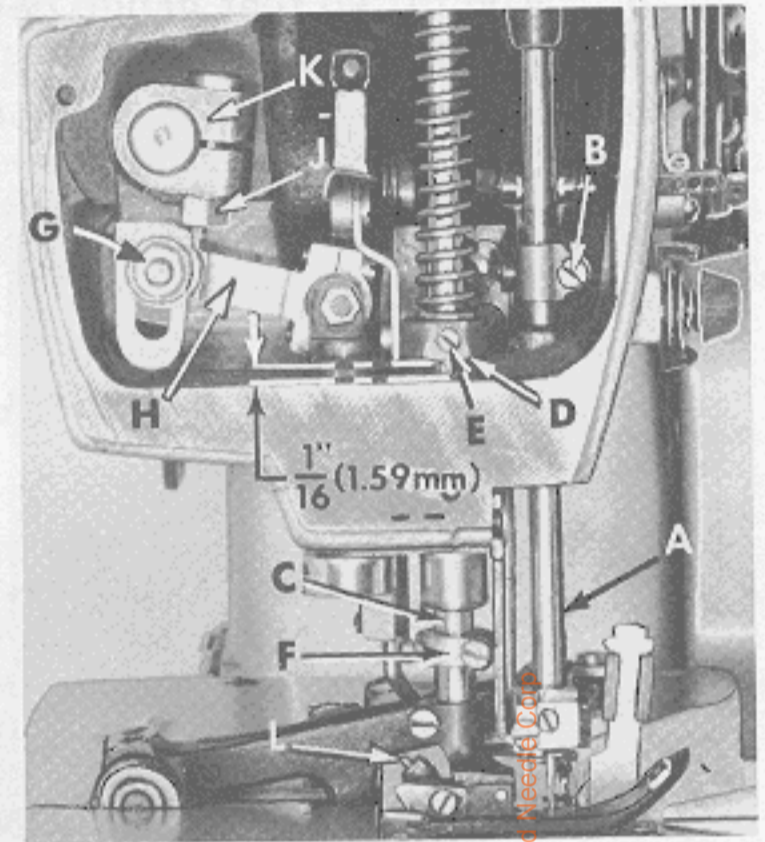

Fig. 4
Align the needle bar (A, Fig. 4) and set to height, using the proper test pins and test plate of the right gauge. See chart below.
If test plate and test pins are not available, insert a new set of needles (Type and Size as required) and align the needle bar so the needles center in the needle holes of throat plate. To align needle bar, loosen needle bar clamp screw (B, Fig. 4) and turn bar as required. Tighten clamp screw.
The height of the needle bar (A, Fig. 4) is correct when the top of the left 602 stitch needle's eye is $3/64$ inch (1.19 mm) below the underside of the front looper, when the point of looper, moving to the left, is even with the left side of this needle. If adjustment is necessary, loosen screw (B) and reposition needle bar (A) up or down as required and retighten screw. Care must be taken not to disturb the alignment of the needle bar while making this adjustment, as the needles are to have equal clearance on both the right and left sides of the needle slots in throat plate.